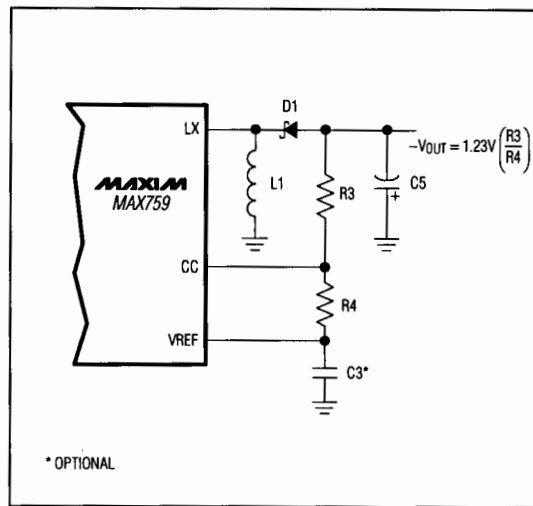

Figure 5. MAX759 Adjustable Output Voltage
**Note 2:** MAX759 output voltage tests are performed using an external resistor divider to set the output voltage to -5V (see Figure 5,  $R_3 = 15k\Omega$ ,  $R_4 = 3.69k\Omega$ ).
Adjust the MAX759's output voltage from 0V to -15V by selecting the appropriate external resistor divider (Figure 5). Output voltages beyond -15V require a transformer to protect the power MOSFET from overvoltage. With R4 feedback resistor (5kΩ to 15kΩ), a compensation capacitor (typically 10nF) from the output to CC gives best transient-response characteristics. Be careful to observe the *Absolute Maximum Ratings* on the difference between input voltage and output voltage.